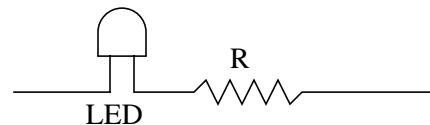

Figure 1 Series Resistor
Light bulbs are DC voltage devices. They are basically resistors which get really hot and give off light. LEDs are DC current devices not voltage devices. This means no matter what voltage you run to your LED you must control the current through the device. At a minimum, you must have a resistor (R) in series with your LED (see Figure 1). The resistor is used to limit the current. You use ohms law to determine the resistor value.